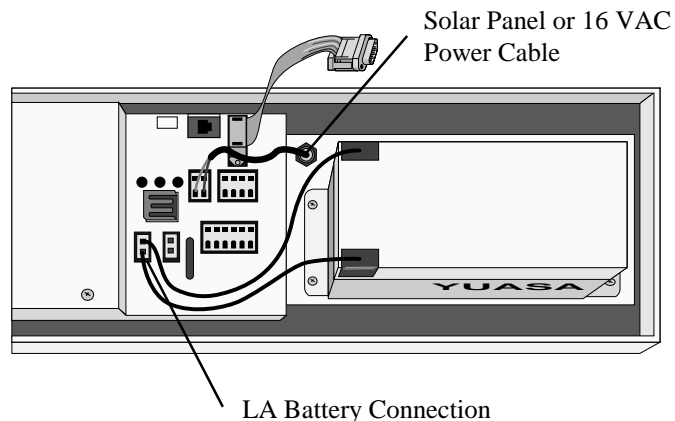

FIGURE 3.1-2. Rechargeable Power Mounting and Connections
- b) Sealed Rechargeable Battery Option: Install the kit as shown in Figure 3.1-2. An unregulated solar panel or 17 to 24 VAC must be used with the rechargeable battery at all times. In either case, power is routed through the Heyco fitting on the enclosure back and connected to the CHG ports by depressing connector levers. Polarity of the CHG connection does not matter. Install the rechargeable battery and plug the battery lead into the connector labeled "LA".